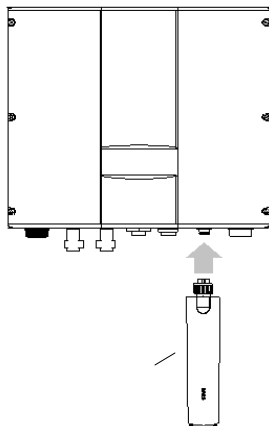

Figure 5-17 GPRS module installation
The GPRS module is optional, and currently is supported only by BPD004TNAC(S) and BPD2K2-5K5TRAC(S). If a GPRS module is required, connect it to the "GPRS" interface, see Figure 2.2 (b), of the inverter. Figure 5.17 shows the connection. For details about how to use the GPRS module, see the user manual delivered with it.